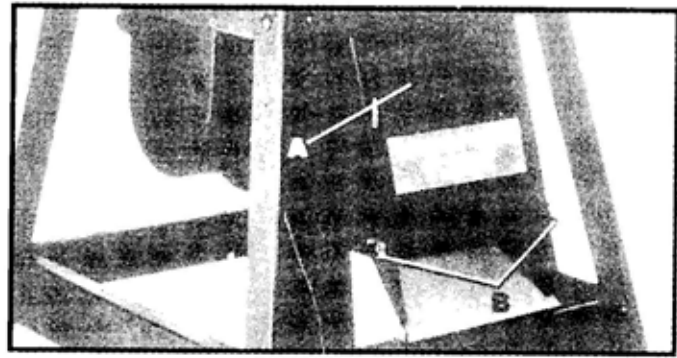

Fig. 63
The dust chute cover (A) Fig.63, can be removed, for cleaning purposes, by removing the two wing screws (B).